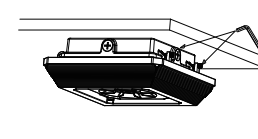

FIGURE 2-8
8. Lock the two cap screws, then installation is finished (Figure 2-8)